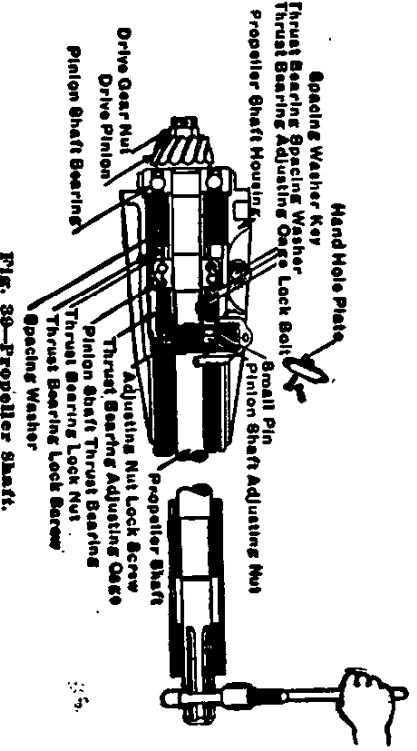

Fig. 39—Propeller Shaft.
Slide the axle assembly from under the car, then remove the four propeller shaft housing bolts, clamping the housing to the axle housings, and lift the assembly off (Fig. 39).
**Remove the hand hole plate (Fig. 39).**
Unscrew the pinion shaft adjusting nut as far as it will go, then pull out the cotter pin holding the drive gear nut and remove the nut. (Fig. 39.)